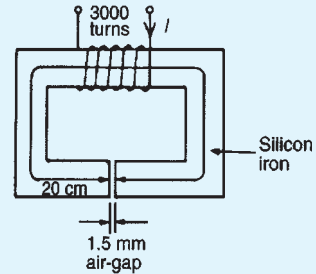

Figure 7.7
4. For the magnetic circuit shown in Fig. 7.7 find the current  $I$  in the coil needed to produce a flux of  $0.45 \text{ mWb}$  in the air-gap. The silicon